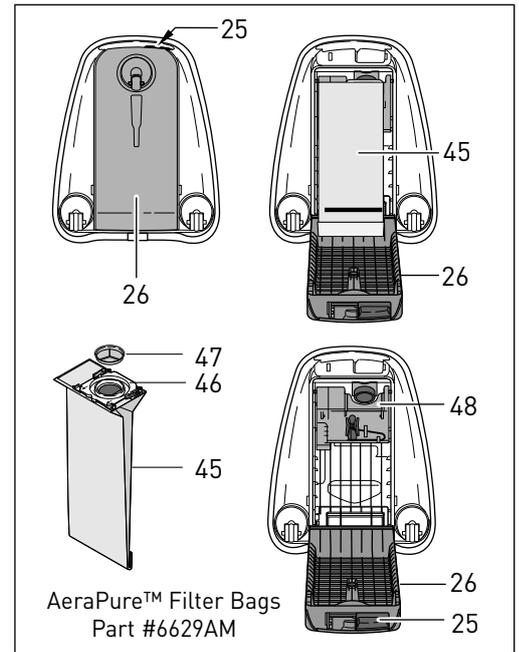

Figure 17
## Changing the Filter Bag - Figure 17
To change the filter bag (45), set the canister upright (as shown in figure 17), press the cover release catch (25) and lower the filter bag cover (26). Grasp the green filter bag sealing plate (46), slide the plate from the holder (48) and push the filter bag cap (47) on to seal the bag. Slide the sealing plate (46) of a new bag into the bag holder slots (48) and push it in firmly until it locks into place. Close the cover, making sure it snaps shut completely. You may find it convenient to store the bag cap inside the filter bag housing below the filter bag. Do not re-use the filter bags. Note: the nature of the contents of the filter bag will affect the point at which it needs changing. Fine dust may require an earlier change even though the bag is not full. Fluff or hair allows air to pass through easily, so the filter bag may overflow before the amber "bag full" light illuminates.
## Changing the Pre-motor Microfilter - Figures 17 & 19
After 10 to 20 bags have been used, change the pre-motor microfilter (52). To remove the microfilter, set the canister upright (as shown in figure 17). Press the cover release catch (25) and lower the filter bag cover (26). Remove the filter bag, then remove the cover by sliding it up and out of the grooves (53). Pull the old filter out (52) and slide the new filter into the same position. Replace the filter bag, then re-insert the cover by fitting the tabs into the grooves (53) on both sides and sliding it in and down. Push the cover closed, making sure it snaps shut completely.
Remove hose (10) from vacuum cleaner (see figure 22), open the filter bag cover and remove the filter bag. (figure 17, page 12). Clean out entrance to bag (58).